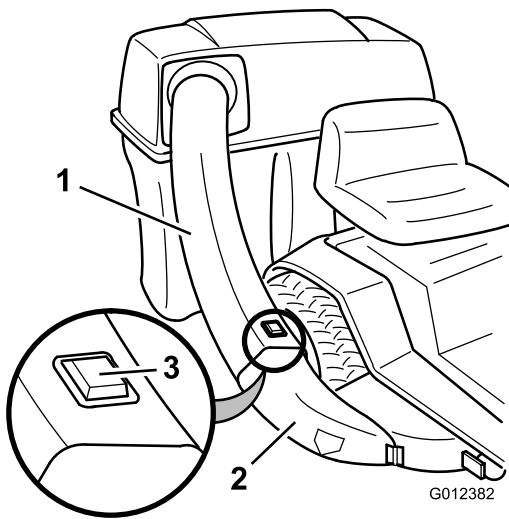

Figure 8
- Slide the discharge tube into the opening in the grass catcher (Figure 8).
5. Slide the discharge tube over the end of the chute, ensuring that the tab on the chute snaps into the square hole in the discharge tube (Figure 8).
1. Push on the tab on the chute and pull the discharge tube free from the chute and grass catcher (Figure 8).